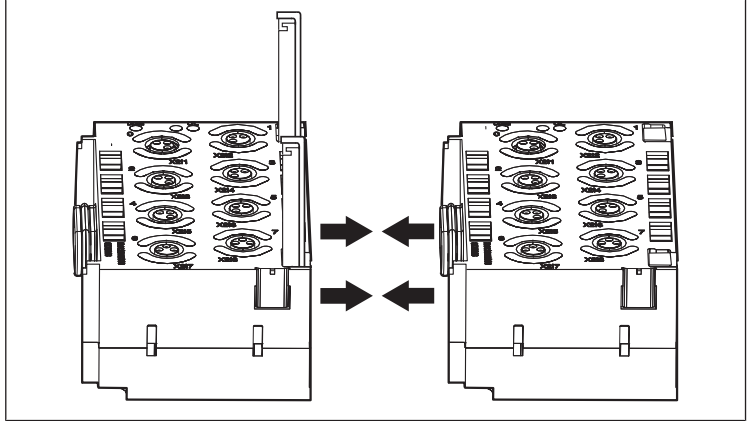

Fig. 10: Assemble the modules
4. Place the new I/O module on the mounting surface and slide it to the right onto the unit (see Fig. 10: Assemble the modules). Ensure that the seals are inserted correctly.
4. Place the new I/O module on the mounting surface and slide it to the right onto the last I/O module (see Fig. 10: Assemble the modules). Ensure that the seals are inserted correctly.